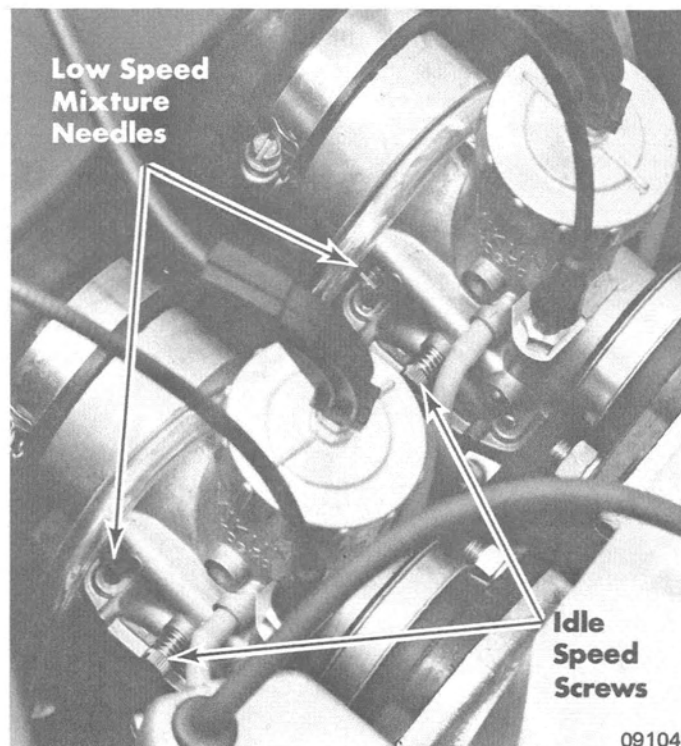

Figure 1. Carburetors
1. Install tension spring and idle speed screw. (Figure 1)
2. Install tension spring and low speed mixture needle. (Figure 1)
1. Remove carburetor air intake silencer from carburetors and turn idle speed screws (Figure 1) on carburetors outward (counterclockwise) until they no longer contact throttle valves.
- a. Turn low speed mixture needles (Figure 1) inward (clockwise) until they seat lightly.
- a. Turn idle speed screws (Figure 1) outward (counterclockwise) until they no longer contact throttle valves.
- Set idle speed screws (Figure 1) to attain recommended idle RPM (refer to "Specifications" Section 8). Turn idle speed screws inward (clockwise) to increase idle RPM or outward (counterclockwise) to decrease idle RPM.